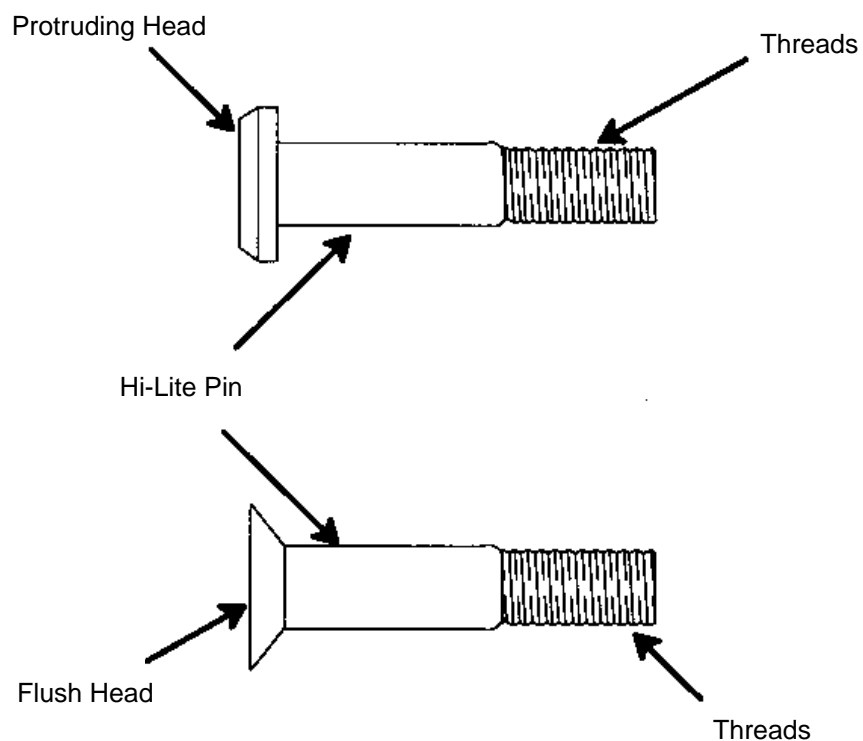
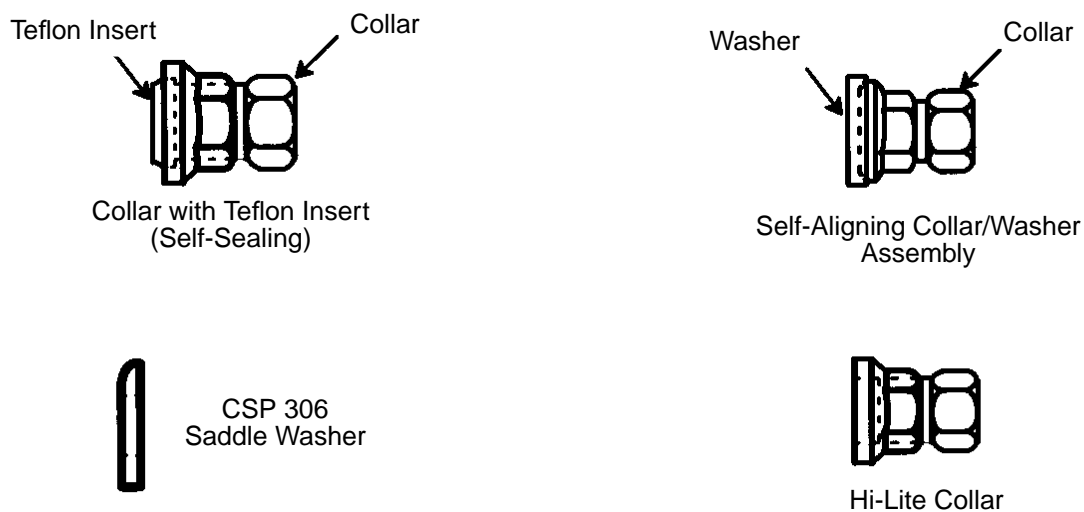
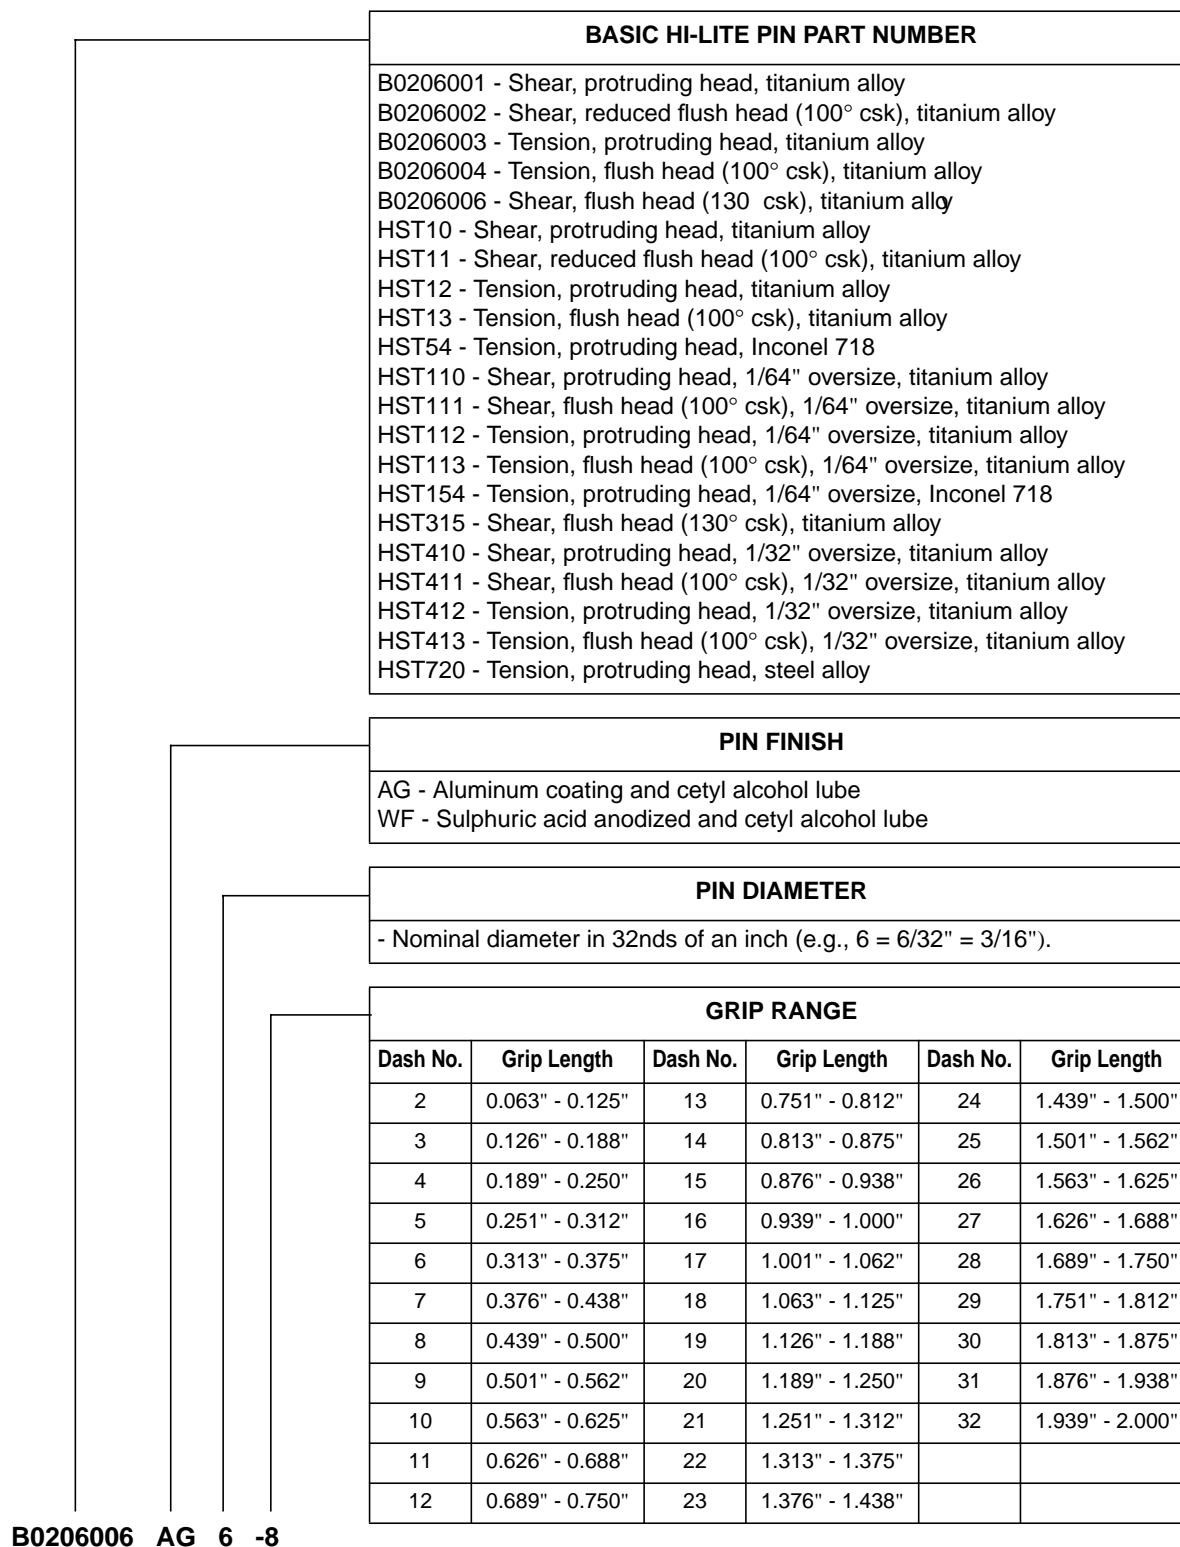
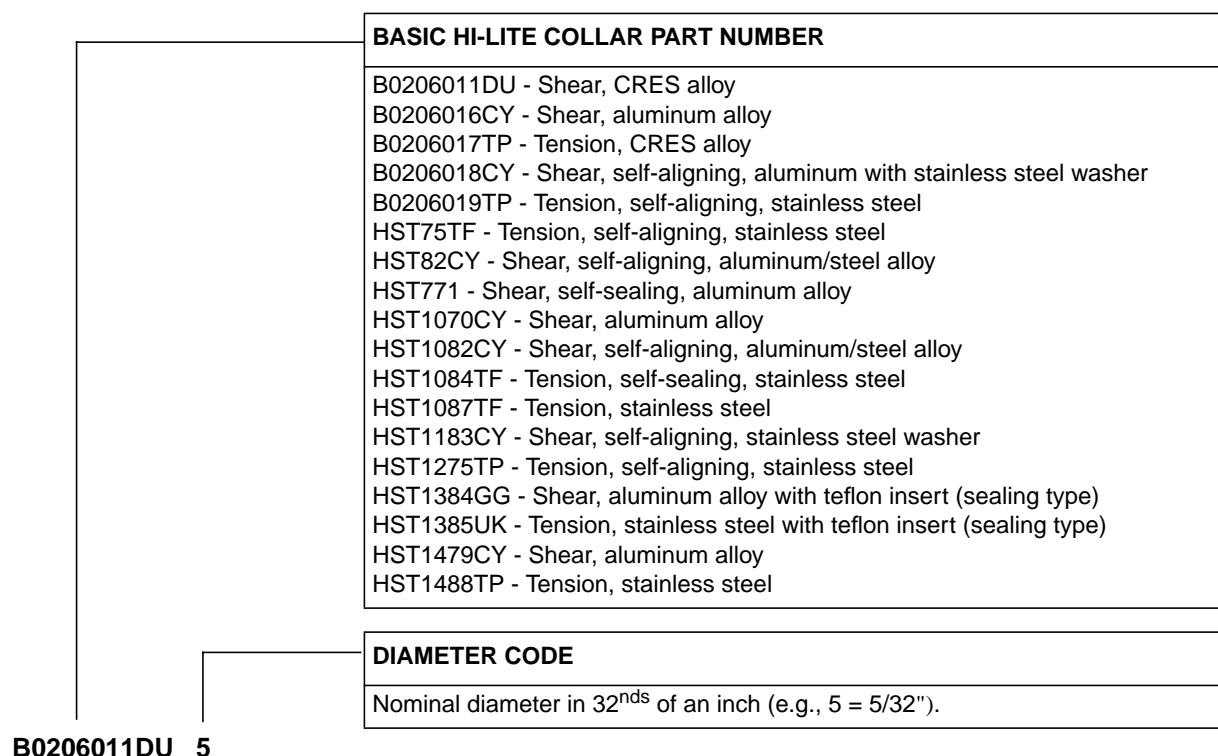

Figure 1 - General Description of Standard Hi-Lite Pins
Figure 2 - General Description of Hi-Lite Collars and Washers
Figure 3 - Hi-Lite Pin Part Number Breakdown
Figure 4 - Hi-Lite Collar Part Number Breakdown
- 4.1.1 Hi-Lite pins and collars, as specified by the engineering drawing, Bombardier Toronto (de Havilland) MRB or Bombardier Toronto (de Havilland) delegated MRB. Refer to Figure 1 and Figure 2 for a general description of the pins and collars. Refer to Figure 3 and Figure 4 for a part number breakdown of Hi-Lite pins and collars. K-Fast nuts, as specified on the engineering drawing or as substitutes for Hi-Lite collars as permitted by EO 7446.